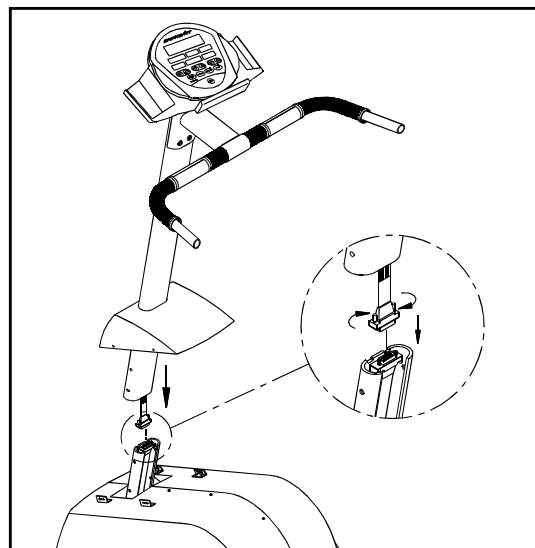

Fig.2
4. Connect the upper ribbon cable inside the upright post to the connector inside the main frame. (see Fig.2)